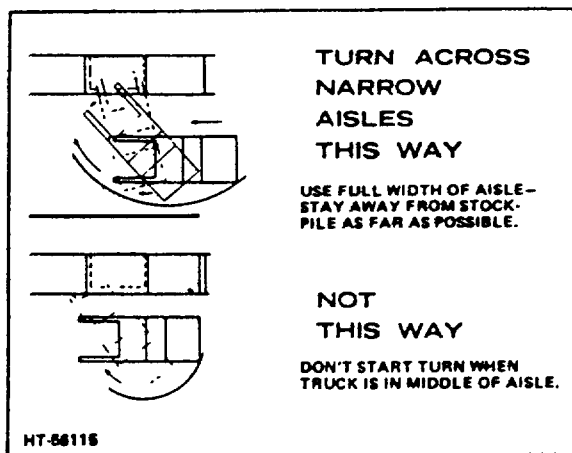

Figure 4-10. Aisle Turning Procedure
- n. Take full advantage of operating space in narrow aisles. Stay as far away from the stock piles as possible but allow for rear end swing (Fig 4-10).